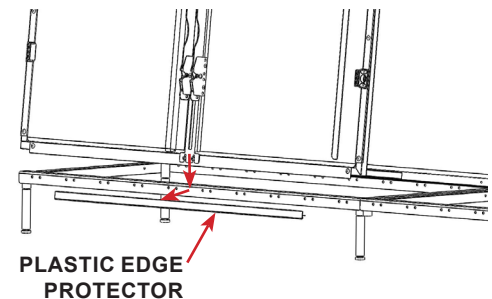

FIGURE 2.19 - Front Edge Guard
**STEP 4:** Lift the front of the cage to remove the red plastic edge guard. Slide the cage back against the front edge lip. See FIGURE 2.19